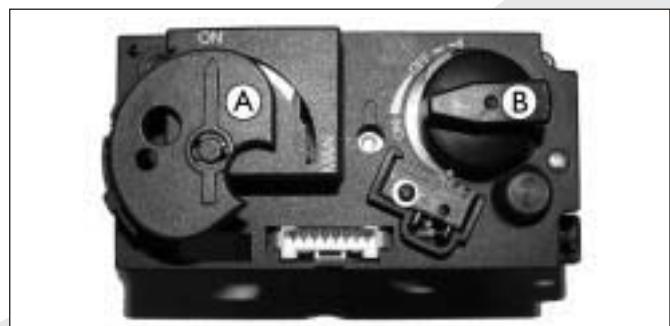

fig. 32
**Caution** - During the ignition process, you are not allowed to operate control button B on the gas control manually (see fig. 32);
- Set button A on the gas control to ON (button B is controlled automatically) (see fig. 32). The gas control is located in the control box.